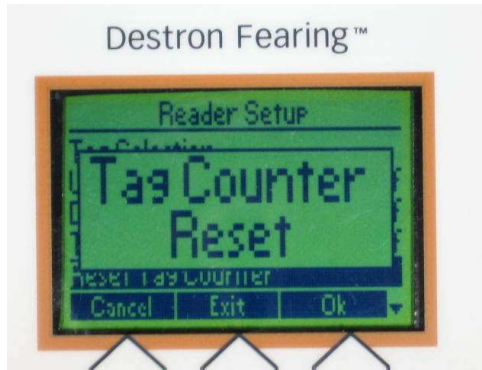

FIG. 70: Tag Counter Reset Dialogue Box
2. Press the OK Key. A "Tag Counter Reset" Dialogue Box appears. See Fig. 70.